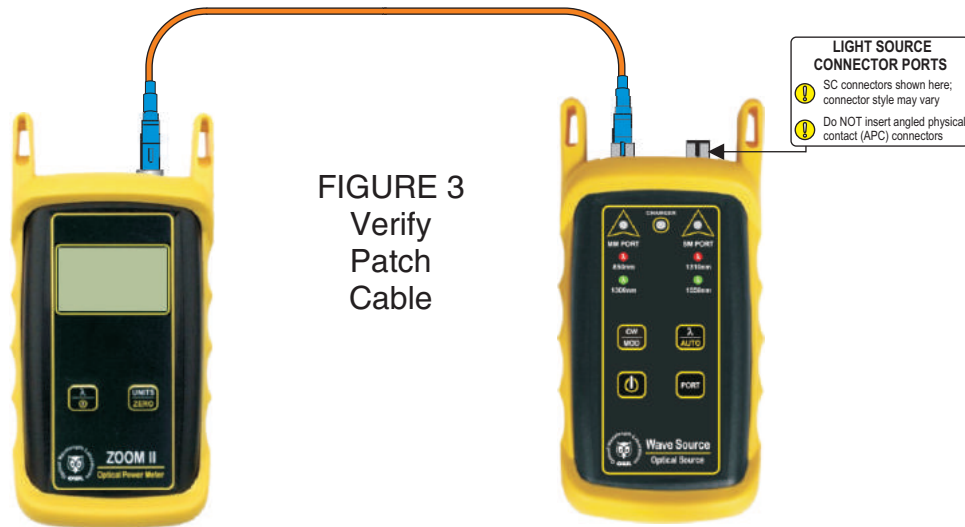

FIGURE 3
- 1 Connect the power meter and light source together with the first patch cable as shown in Figure 3.
- 7 Connect the power meter and light source together with the second patch cable as shown in Figure 3.
- 1 Connect the power meter and light source together with the straight patch cable (i.e. no mandrel wrap) as shown in Figure 3.
- 18 Connect the ZOOM 2 and Laser OWL to the link under test as shown in Figure 3 below.